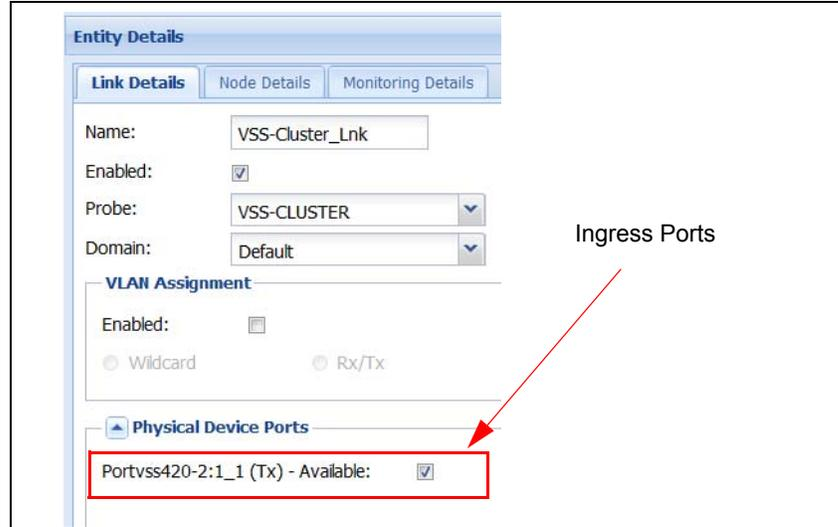

Figure 3.16 - Iris Admin Topology Tab - Physical Links Pane
- 7. Create physical links for the Aggregation Cluster ingress ports. The clusters are available in the Probe Selection drop-down menu as shown in **Figure 3.16**. G10s and IPBs currently bound to other clusters do not appear in the Probe Selection list.
When you select a cluster, the ingress ports of the cluster appear in the Physical Device Ports area (**Figure 3.16**).